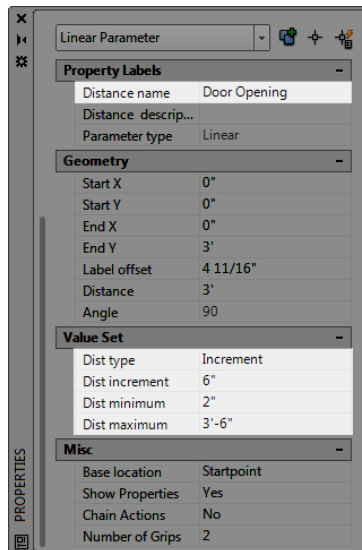

FIGURE 9.47: Change the parameters in the Properties dialog box.
- ▶ Dist Increment to 6" (153)
- ▶ Dist Minimum to 2' (609)
- ▶ Dist Maximum to 3'-6" (1068)See Figure 9.47.